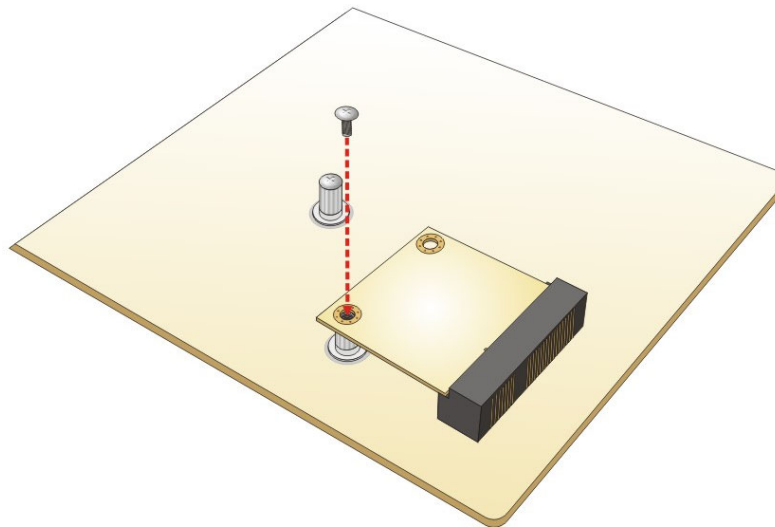

Figure 4-13: Securing the Half-size PCIe Mini Card
Step 4: Secure the half-size PCIe Mini card. Secure the half-size PCIe Mini card with the supplied retention screw (Figure 4-13).